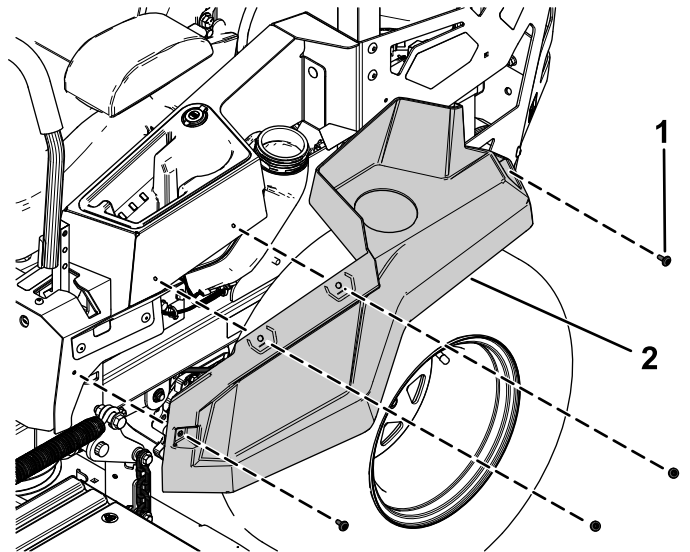

Figure 4
2. Remove the 4 shoulder screws securing the left side pod and remove the left side pod (Figure 4). Retain the left side pod and 4 shoulder screws for later installation.